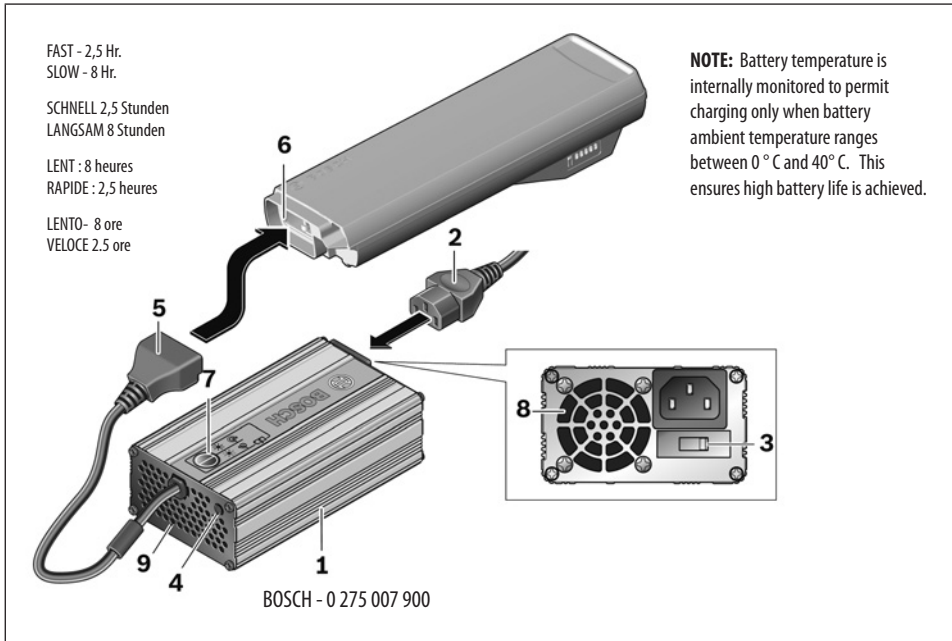

Figure 6.
See Figure 6. Remove the battery from the bicycle rack. Bring battery indoors and allow time for it to charge at room temperature. Make sure the charger (1) is set-up for the correct voltage (2) and connected to the wall outlet (3). Confirm that the charger is ready; the LED (4) will be on. Attach the charging connector (5) to the battery jack. (6) Set the rate of charge "SLOW or FAST" with the button (7) on top of the charger. Allow sufficient time for battery to remain connected to the charger to reach a full charge. During charging, make sure the charger ventilation openings (8) are clear. Do not cover the battery or charger.